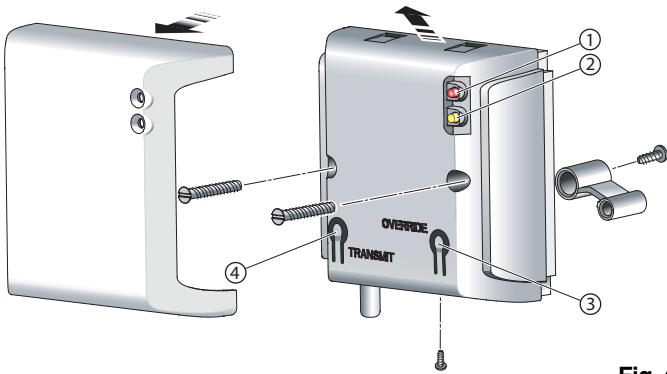

Fig. 4
- Secure the Receiver to the back box using the screws provided (located on rear moulding) - see **Fig. 4**.
Receiver - see Fig. 4